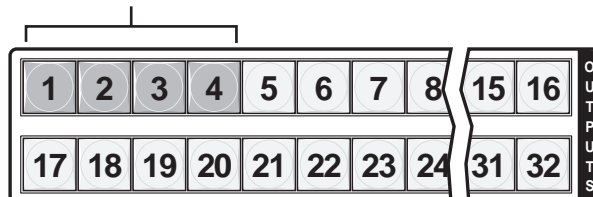

Figure 3-33 — Assign inputs and outputs
4. Press and release the input 1 through 4 and output 1 through 4 buttons (figure 3-33).